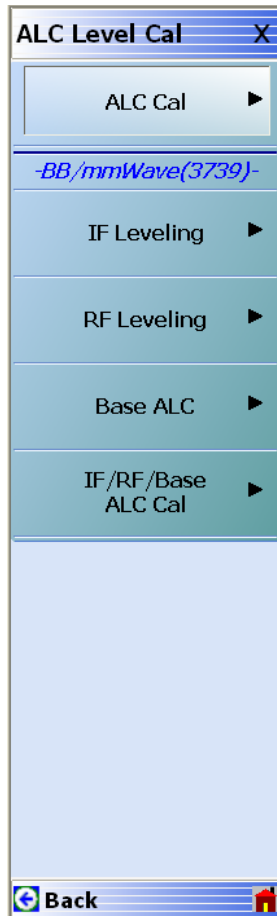

Figure 5-9. ALC LEVEL CAL Menu
16. Select ALC Cal and the ALC Level Cal Menu appears as shown in Figure 5-9.
1. Select IF/RF/Base ALC Cal and the ALC[3739-All] menu appears as shown in Figure 5-9.